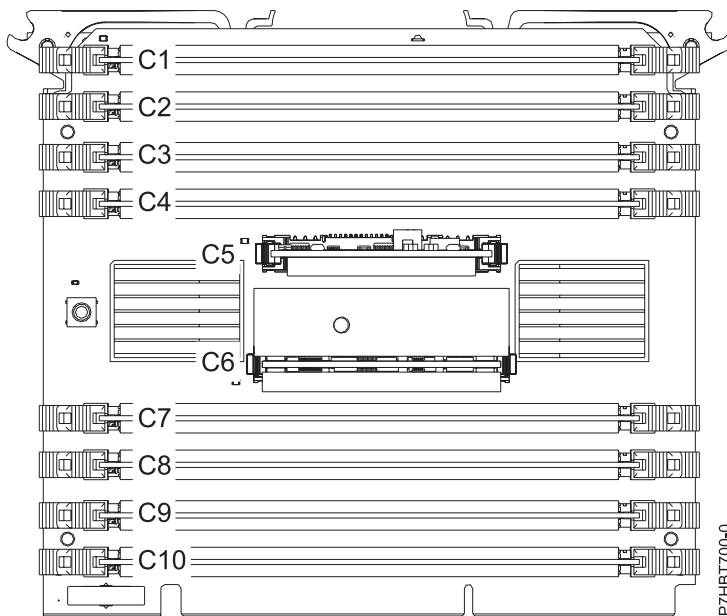

Figure 5. Memory voltage regulator module location
11. Locate the memory voltage regulator module to be removed from the system processor assembly. Figure 5 shows the memory voltage regulator modules (C5 and C6) in relation to the location on the system processor assembly.